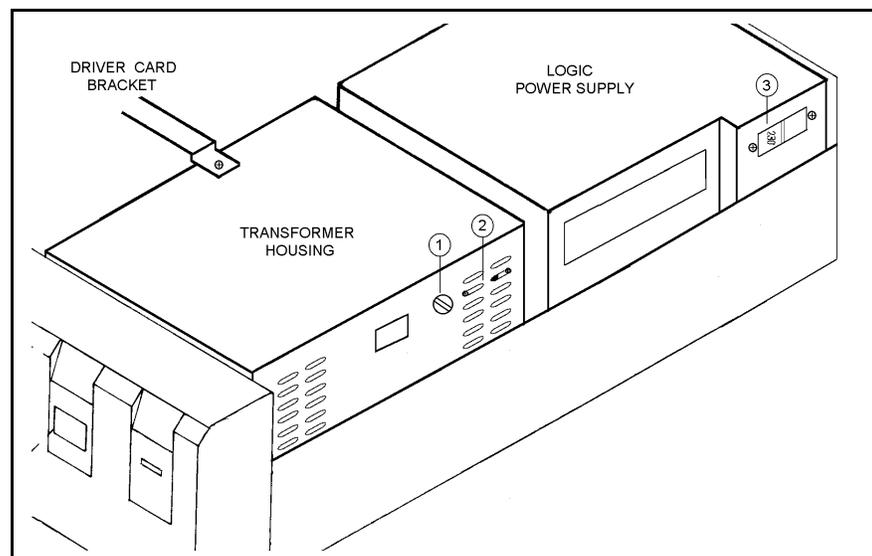

Figure 8-6: Controller Voltage Setting
- Refer to Figure 8-6. If outputs have not been switched, check the flat cable connection between the I/O card and the main board (J10).
To change the controller's voltage setting, you must change the controller's power transformer fuse and the voltage switches. Refer to Figure 8-6.
- Remove the screw which holds the long bracket to the transformer cover (see Figure 8-6).